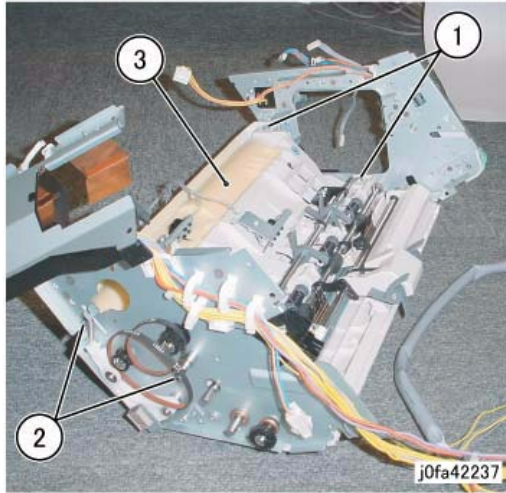

Figure 6 Removing the Entrance Lower Chute Assembly
12. Remove the Entrance Lower Chute Assembly (Figure 6):